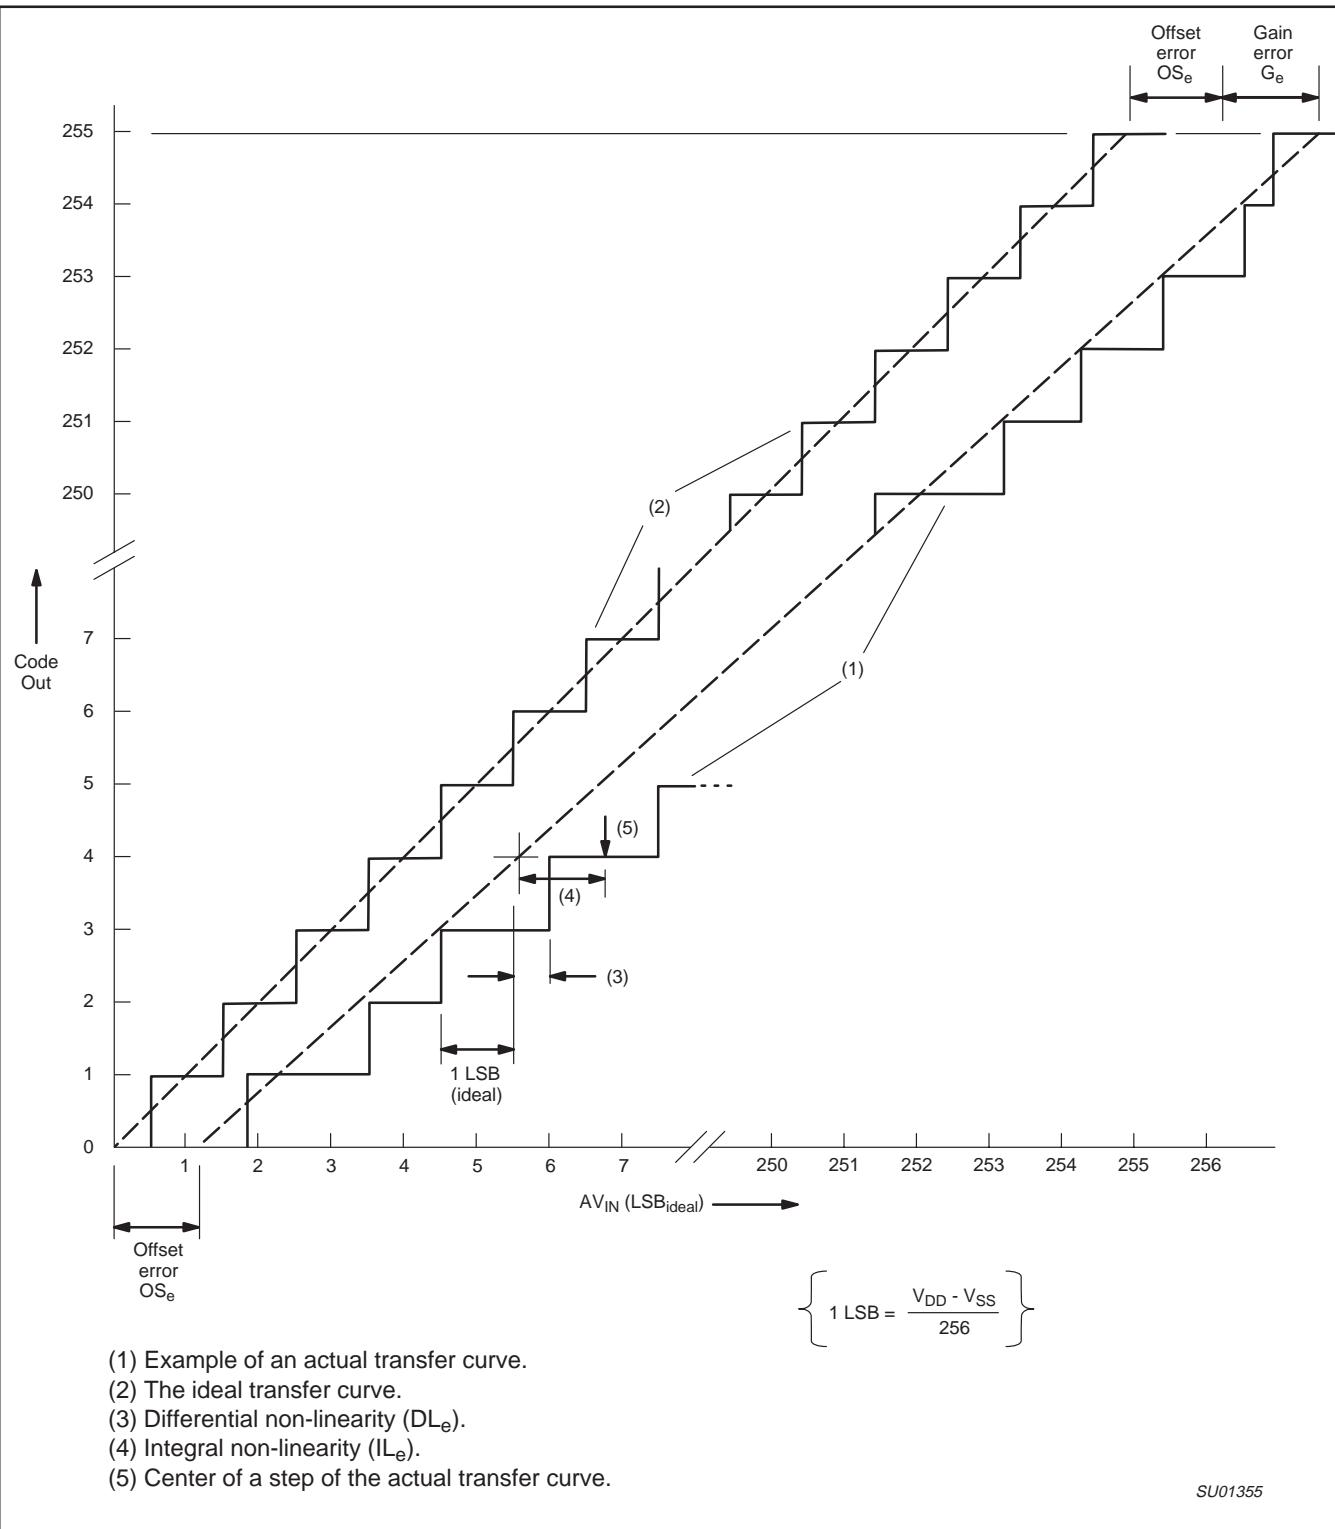

Figure 41. A/D Conversion Characteristics
3. The differential non-linearity ( $DLE$ ) is the difference between the actual step width and the ideal step width. See Figure 41.
4. The integral non-linearity ( $IL_e$ ) is the peak difference between the center of the steps of the actual and the ideal transfer curve after appropriate adjustment of gain and offset errors. See Figure 41.
5. The offset error ( $OS_e$ ) is the absolute difference between the straight line which fits the actual transfer curve (after removing gain error), and the straight line which fits the ideal transfer curve. See Figure 41.
6. The gain error ( $G_e$ ) is the relative difference in percent between the straight line fitting the actual transfer curve (after removing offset error), and the straight line which fits the ideal transfer curve. Gain error is constant at every point on the transfer curve. See Figure 41.